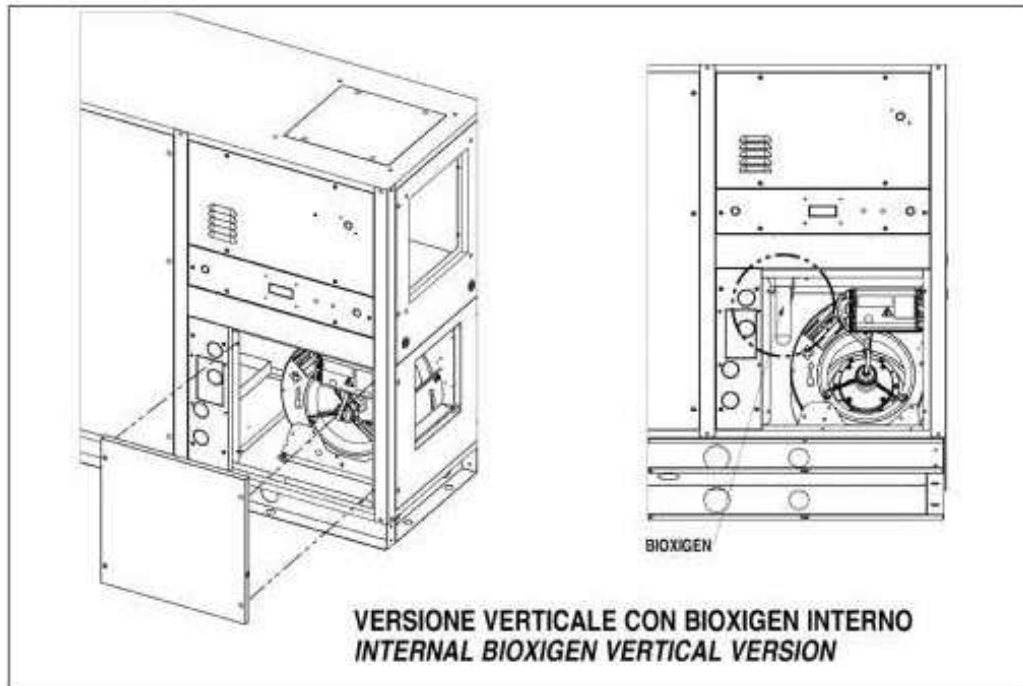

Fig.39
**VERSIONE VERTICALE (Fig. 39)**
VERTICAL VERSION (Fig. 39)